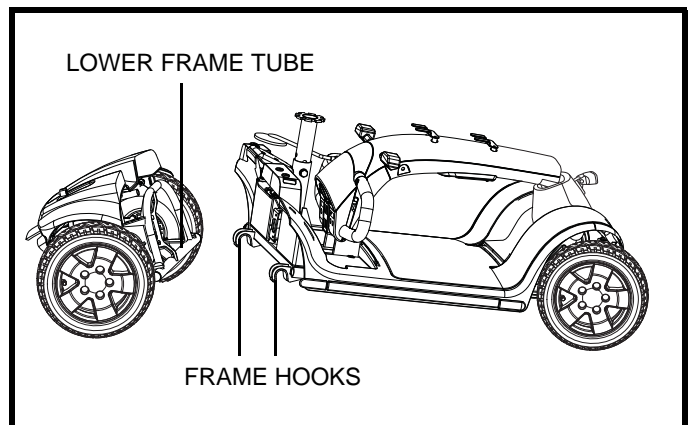

Figure 24. Frame Separation
4. Lift the front section up until the frame hooks of the front section separate from the rear section. **See figure 24.**
5. Slowly separate the two sections. **See figure 24.**
1. Position the front and rear sections of your scooter as shown in **figure 24**.